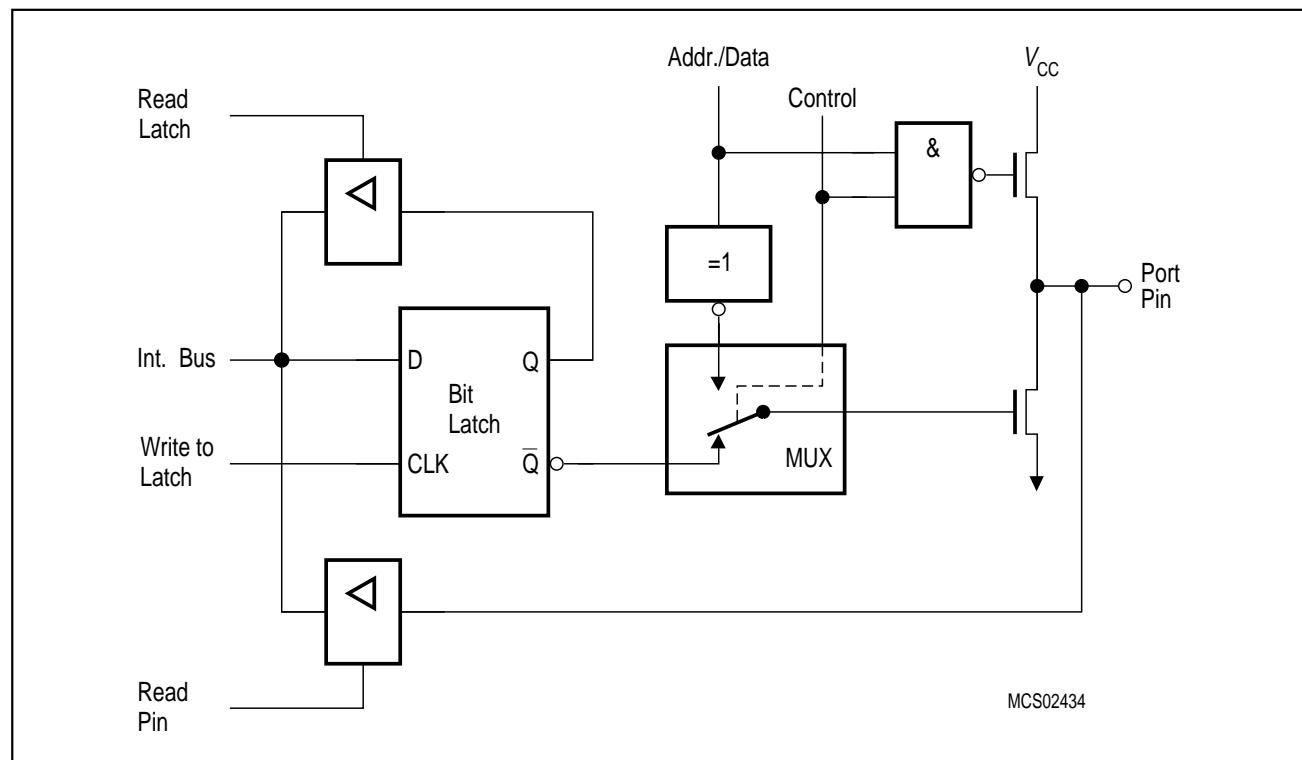
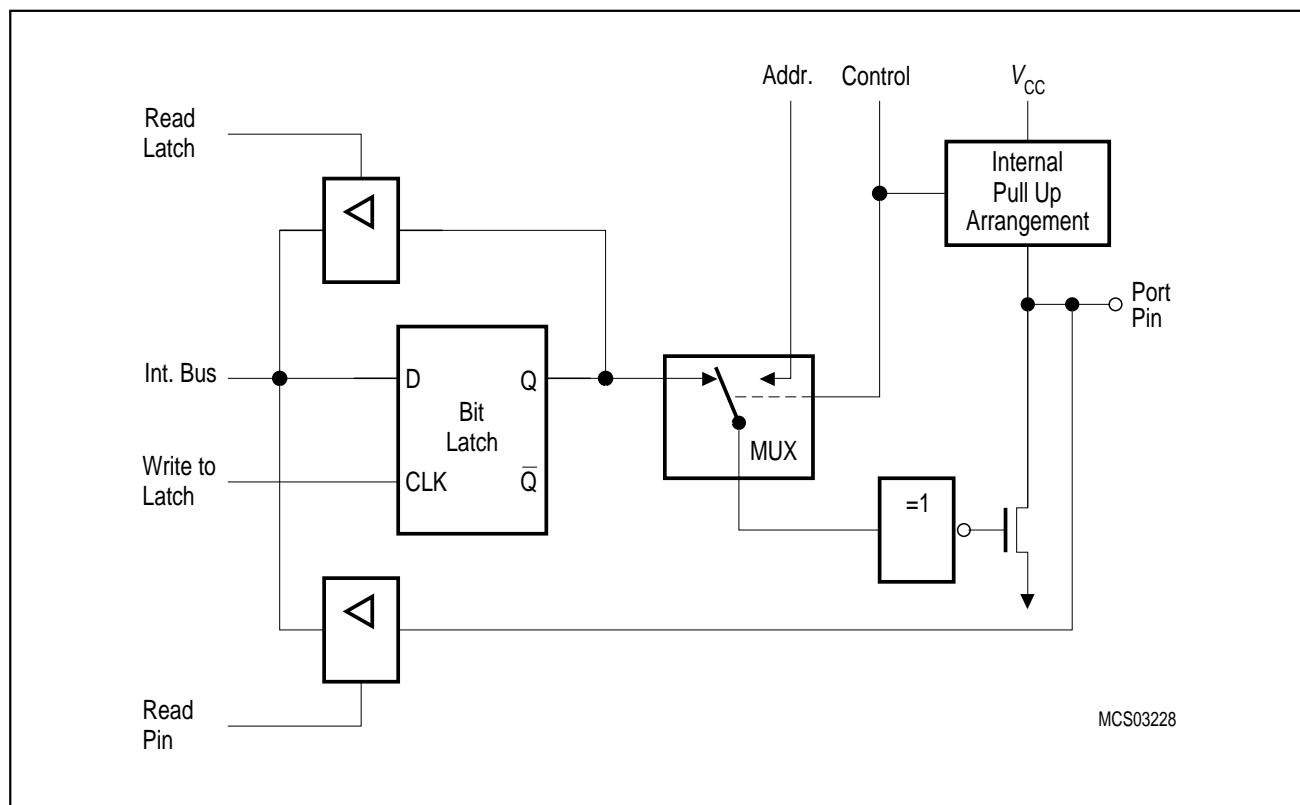

Figure 6-5
Figure 6-6
Port 0, in contrast to ports 1 to 6 and 9, is considered as “true” bidirectional, because the port 0 pins float when configured as inputs. Thus, this port differs in not having internal pullups. The pullup FET in the P0 output driver (see **figure 6-5**) is used only when the port is emitting 1's during the external memory accesses. Otherwise, the pullup is always off. Consequently, P0 lines that are used as output port lines are open drain lines. Writing a “1” to the port latch leaves both output FETs off and the pin floats. In that condition it can be used as high-impedance input. If port 0 is configured as general I/O port and has to emit logic high-level (1), external pullups are required.
As shown in **figure 6-5** and below in **figure 6-6**, the output drivers of ports 0 and 2 can be switched to an internal address or address/data bus for use in external memory accesses. In this application they cannot be used as general purpose I/O, even if not all address lines are used externally. The switching is done by an internal control signal dependent on the input level at the EA pin and/or the contents of the program counter. If the ports are configured as an address/data bus, the port latches are disconnected from the driver circuit. During this time, the P2 SFR remains unchanged while the P0 SFR has 1's written to it. Being an address/data bus, port 0 uses a pullup FET as shown in **figure 6-5**. When a 16-bit address is used, port 2 uses the additional strong pullups p1 to emit 1's for the entire external memory cycle instead of the weak ones (p2 and p3) used during normal port activity.